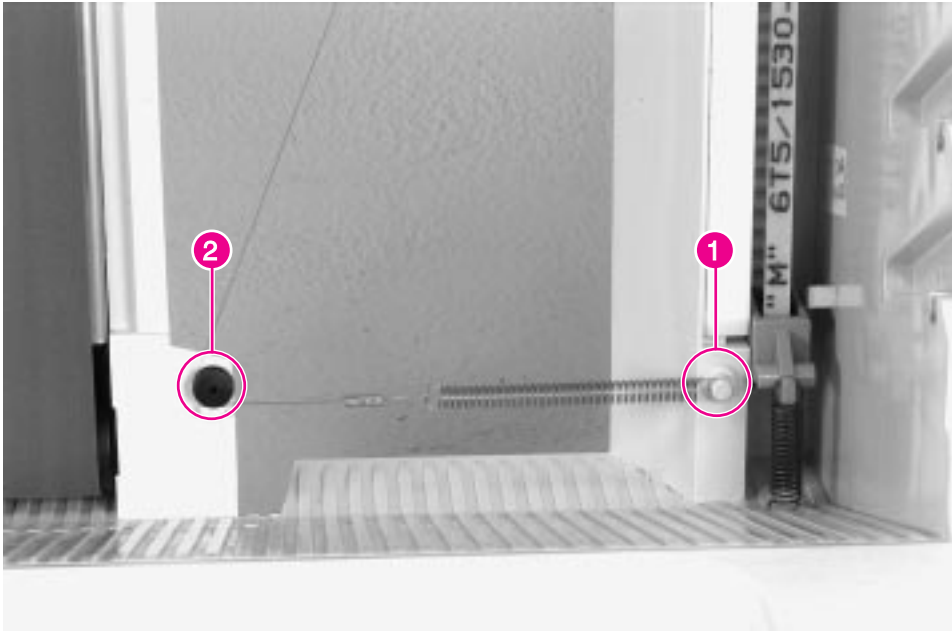

Figure 6-77 Mailbox with Stapler, Anti-Curl String Lower Connection
- 2 Disconnect the Anti-Curl String tension springs at the bottom of the frame (figure 6-77, callout 1), and remove the strings from the lower pulleys by snapping them free (figure 6-77, callout 2).